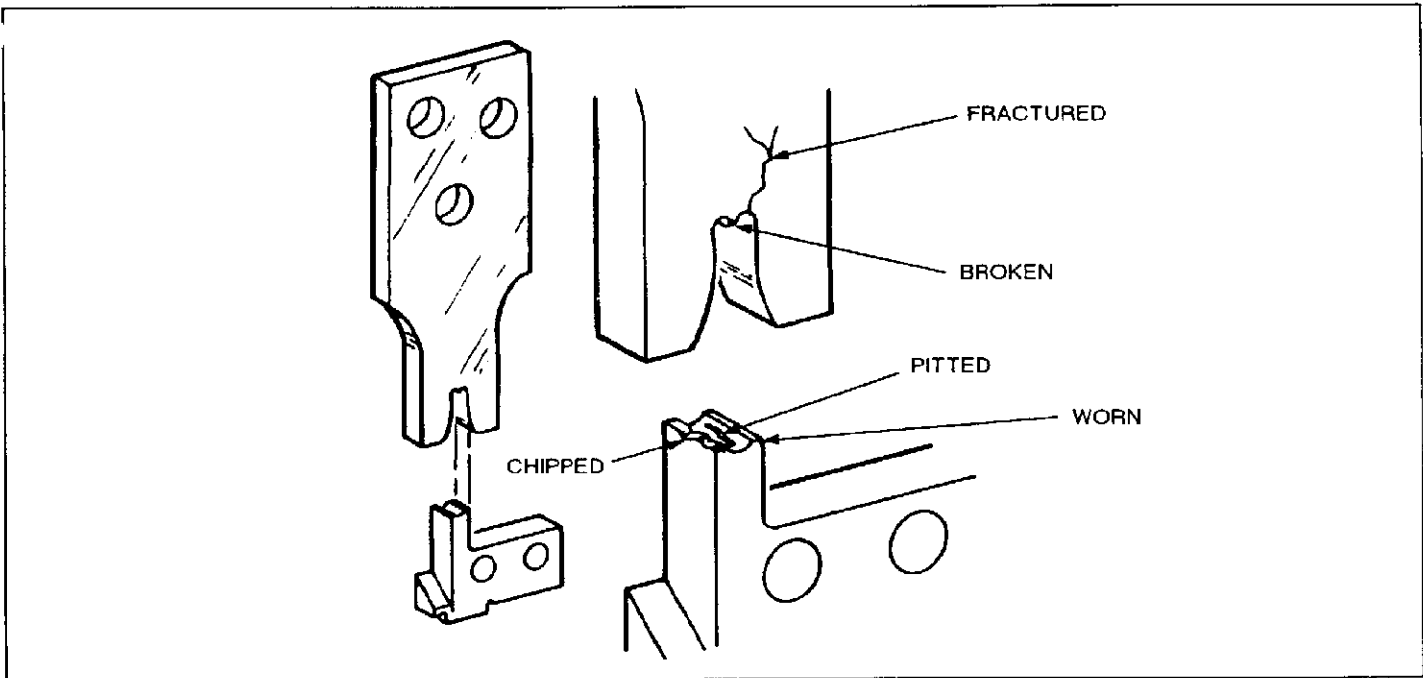

Fig. 9
1. Inspect upper and lower tooling (dies) for chips, pits, wear, fractures, and/or broken surfaces as shown in Figure 9. Should any of these conditions appear, tooling should be replaced immediately as described in Section 6.